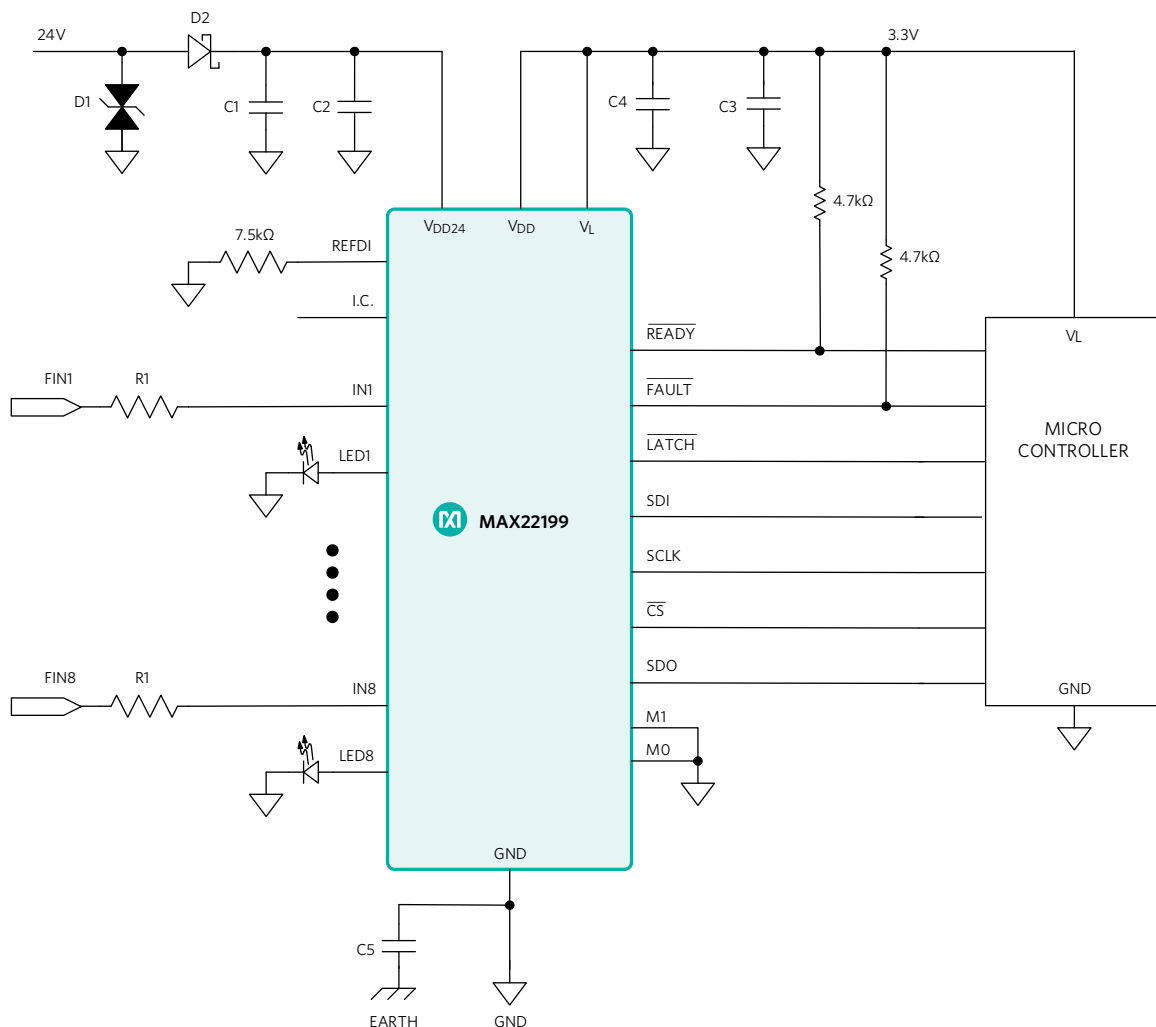
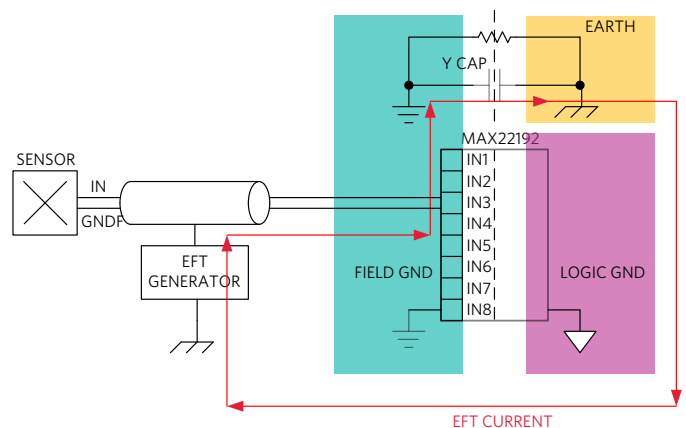
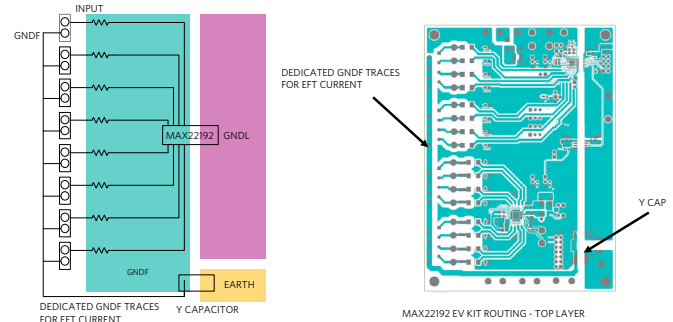

Figure 26. MAX22199 DI IC with External Protection Components
Figure 28. Y Capacitor for Extra Protection
Figure 29. Redirect Current to Earth Through the Y Capacitor
The external components in the circuit shown (**Figure 26**) enables the **MAX22199** DI device to meet and exceed the transient immunity requirements as specified in the IEC 61131-x standards. A list of recommended components is shown in Table 9, to make the MAX22199 robust enough to meet the ESD, EFT, and surge specifications. For all tests, the part is soldered onto a properly designed application board e.g., the **MAX22199EVKIT#** (**Figure 29**) with the necessary external components.
In critical applications, a safety-rated Y capacitor across the isolation barrier is recommended (**Figure 28**). For example, in EFT testing of the MAX22192 (with integrated isolation barrier), the Y capacitor reduces the dV/dt seen by the isolator, thereby improving the EFT performance and protecting the isolator barrier. The Y capacitor must be connected between field GND and Earth (PE) so that the large EFT current is redirected to Earth without disturbing logic-side components. In addition, a resistive discharge path ($> 100\text{M}\Omega$) may also be implemented across the barrier to discharge the Y cap. The recommended board placement for the Y capacitor is shown in **Figure 29**.